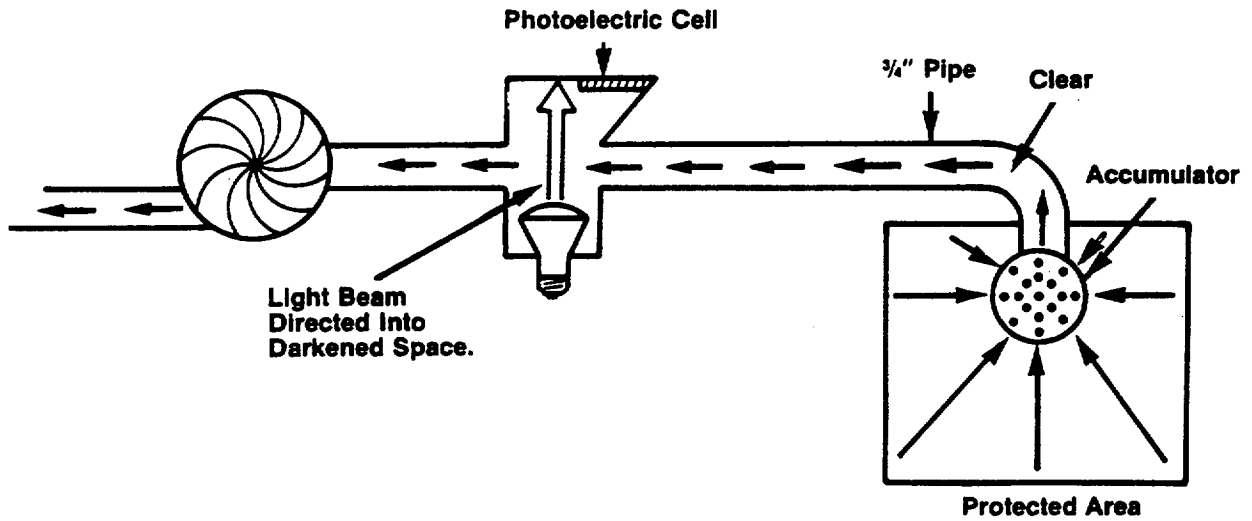

Figure 2-1. Air Samples Being Sampled By Smoke Detection System
- 2.1 The basic principles of operation of the system are illustrated in Figures 2-1 through 2-4.
- 2.2 Air samples are continuously drawn from each protected space through the CO2 system distribution piping, with individual lines to each detecting module at the main cabinet. The air samples are continually inspected for the presence of smoke as a result of being drawn through a darkened space in each module. A light beam is directed into the darkened space in such a manner that it does not fall on the sensitive photoelectric cell (Figure 2-1).